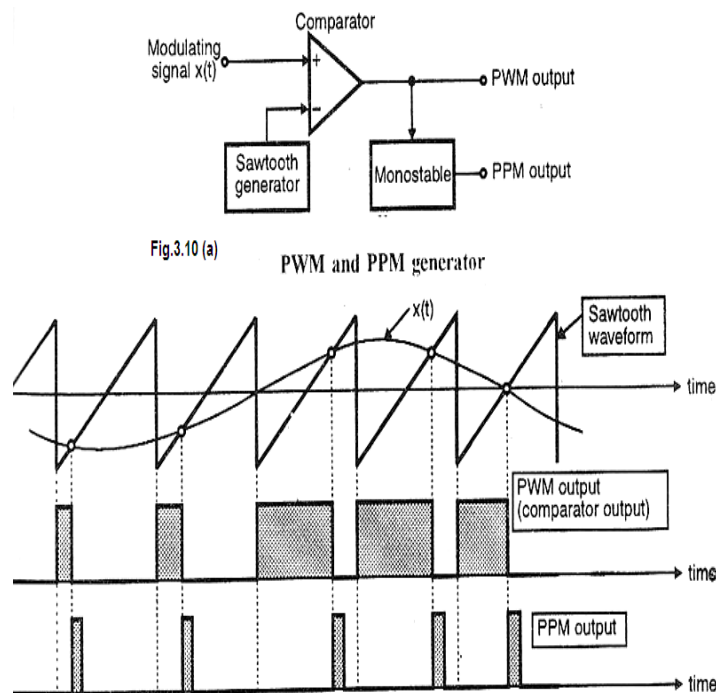

Fig.3.10 (a)
- ❖ It is seen from the fig. 3.10 that the output from the comparator is a series of positive going pulses.